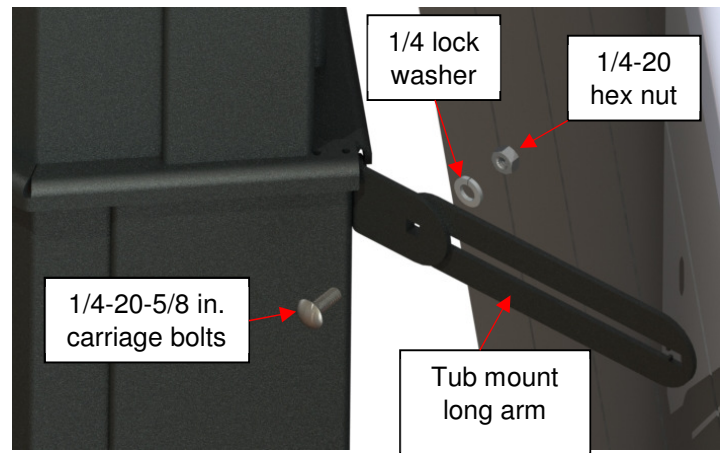

Figure 93
- 4) Install the tub mount supports on the arms. If it is possible to fasten the tub mount supports to the absolute extremities of the arms, use 1/4-20-5/8 in. carriage bolts, 1/4 lock washers and 1/4-20 hex nuts. If the tub mount supports need to be fastened in the arms' slots, use 1/4-20-5/8 in. carriage bolts, 1/4 flat washers, 1/4 lock washers and 1/4-20 hex nuts. (Figure 93)